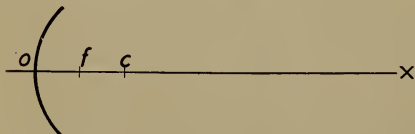

FIGURE 76. — THE PRINCIPAL POINTS OF A SPHERICAL MIRROR.
**119. Meaning of Terms.** — In Figure 76 the point *c* is the *center of curvature*, and is equidistant from all points in the surface of a spherical mirror. The